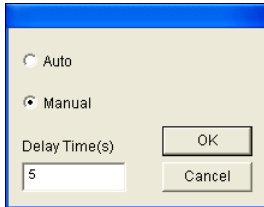

Figure 1-84
- **Live disable alarm:** Choose whether to invoke the warning message when Scene Change is detected. Click the [...] button beside to display Figure 1-84.